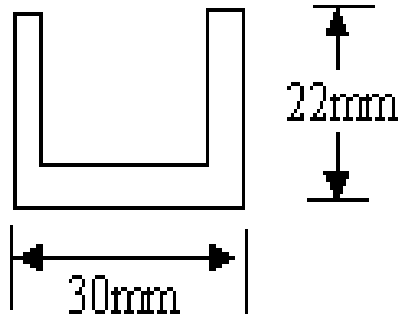

Figure 8b
- (b) Find crippling stress for the sections shown in figure 8b, using Gerard's method. [8+8]